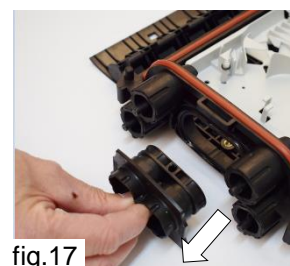

fig.17
**Then push out sealing plug with thumb (fig.17).**
Extraire le bouchon, entrée double (fig.17).